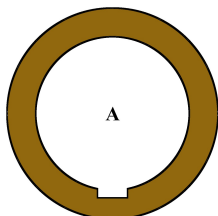

Figure 2
- **Step 16** Modify the two CR-2050 rings by cutting or sanding flat notches in the inside diameter, as shown in Fig. 2 above. A sanding twig is an excellent tool for this job.